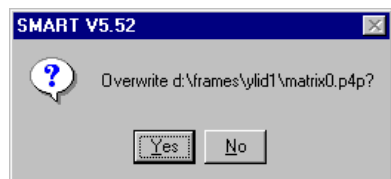

Figure 4-40. Overwrite default matrix0.p4p file
- Press OK. A message asking you to overwrite the default file for refined unit cell parameters (matrix0.p4p) appears (Figure 4-40).